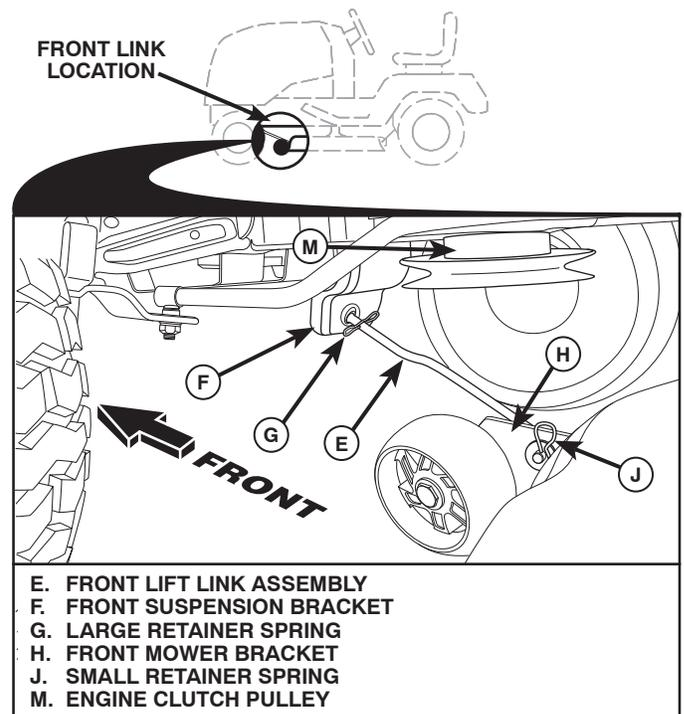

Fig. 14
8 ATTACH FRONT LINK (E) (See Fig. 14)
- From front of tractor, insert rod end of front link (E) through front hole in tractor front suspension bracket (F).
- Move to left side of mower and insert large retainer spring (G) through hole in front link (E) behind front suspension bracket (F).
- Insert other end of link (E) into hole in front mower bracket (H) and secure with washer and small retainer spring (J).